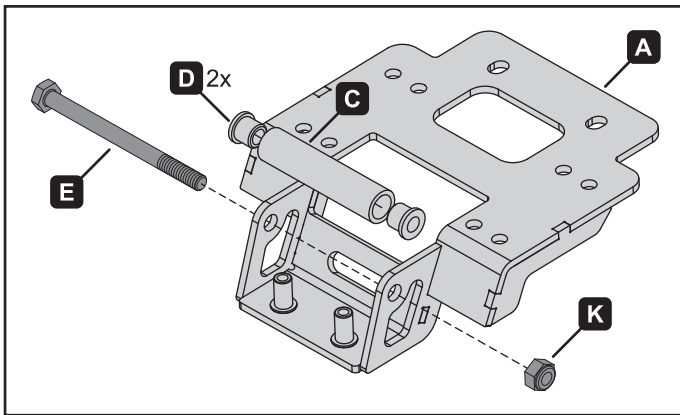

Figure 2.
3. Assemble the roller (C) to the winch mount (A) with bushings (D), bolt (E) and nut (K) as shown in figure 2.